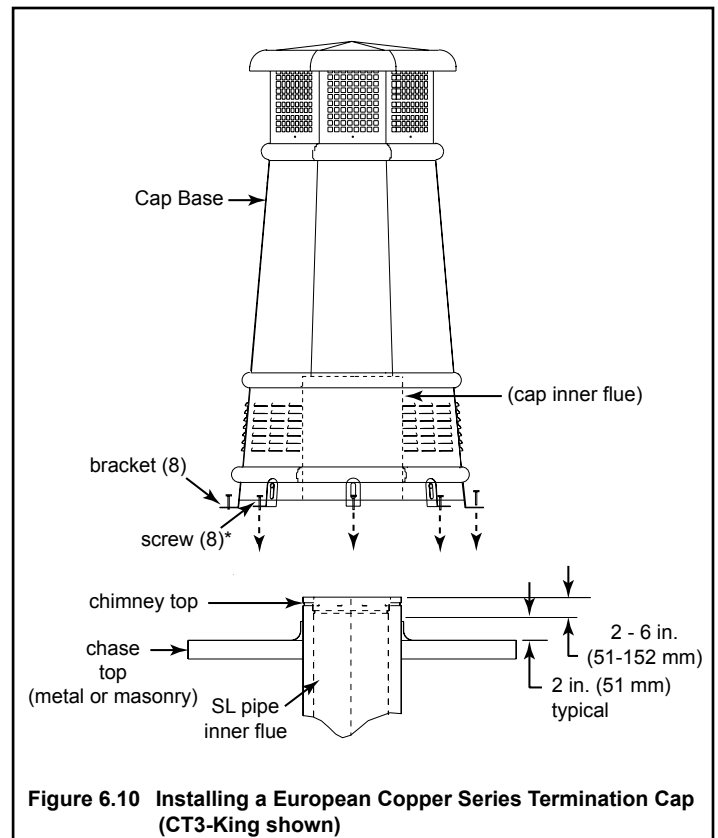

Figure 6.10 Installing a European Copper Series Termination Cap (CT3-King shown)
- For installations utilizing a European Copper Series Termination Cap, See Figure 6.10.